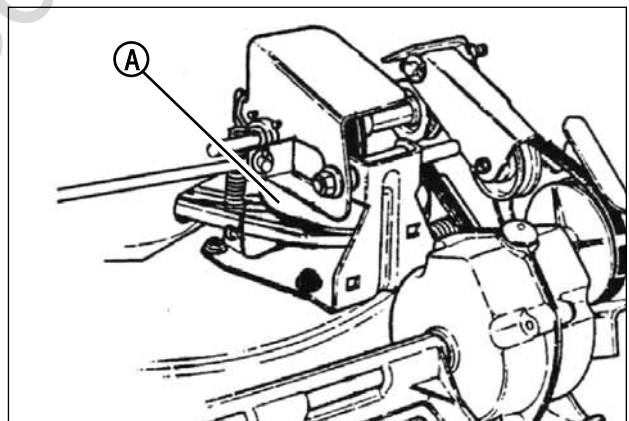

Figure 16: Location of the drive disc
*Note:* Do not spill grease or oil onto the surface of the drive disc (A, Figure 16).